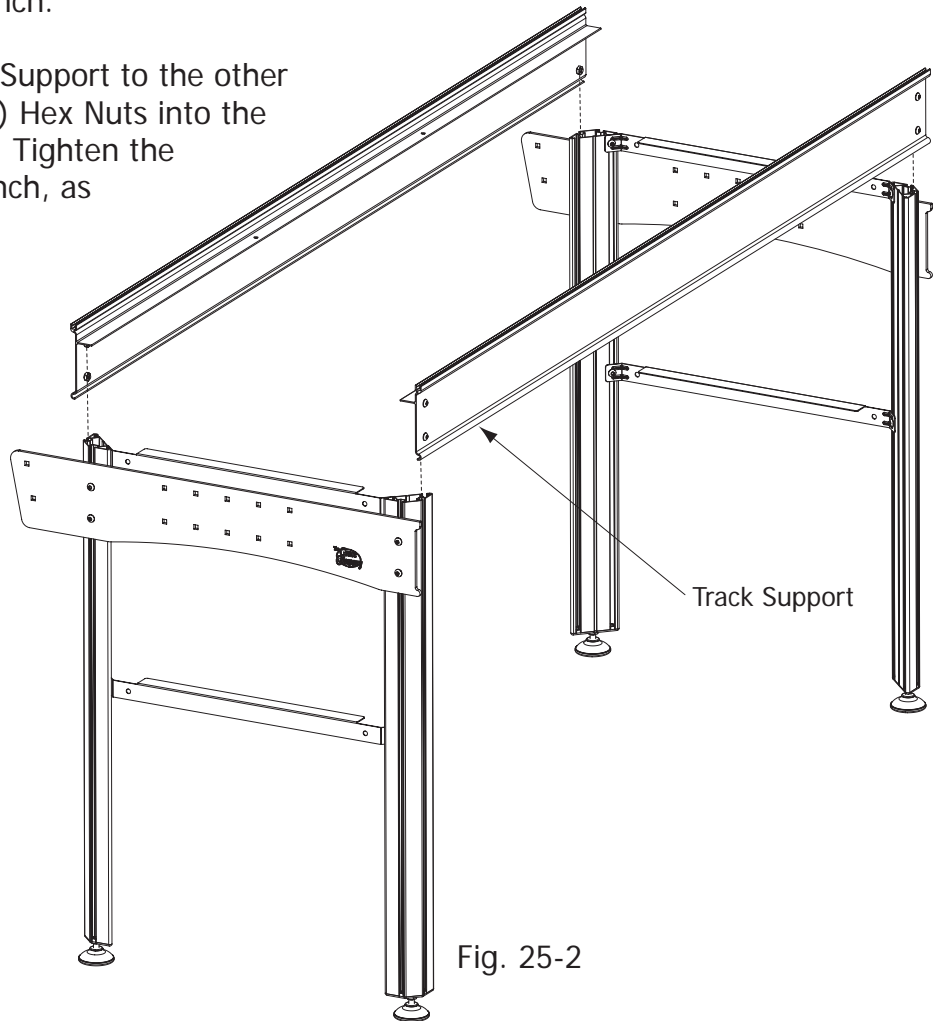

Fig. 25-2
25-3: Attach the other end of the Track Support to the other Outer Leg Assembly by sliding the two (2) Hex Nuts into the "T" slot in the Leg as shown in Fig. 25-2. Tighten the 3/8" SBHC screws with a 4mm Allen Wrench, as done in step 25-2.